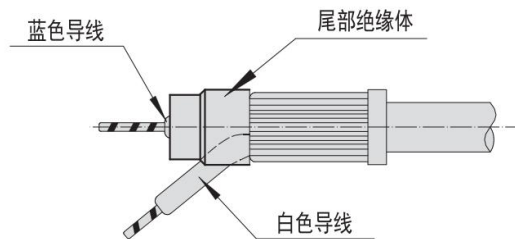

Figure 3.3
③ As shown in Figure 3.3, bend the white wire outward and put it into the slot of the insulator. The blue wire passes through the insulator, and the end of the insulator must cover the shield layer.